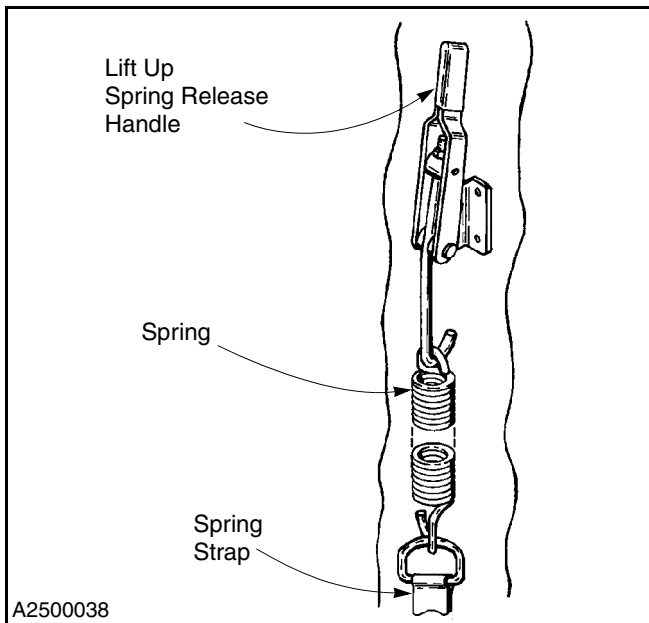

Figure 35
5. Inspect each spring strap for wear and tear, and frayed edges. (See Figure 35.) Replace if required. (See “SPRING STRAP REPLACEMENT” on page 29.)